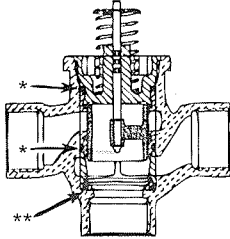

Fig. 3.
6. Clean the valve surfaces shown\* (Fig. 3) to ensure the new cartridge O-rings seal at these points. Use care to avoid damage to these surfaces. (\*\* for 3-way valves only).